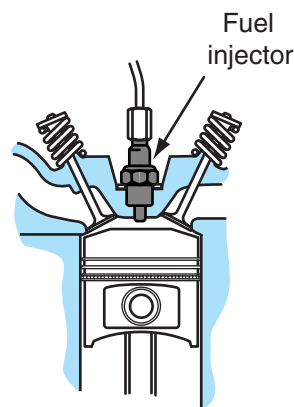

FIGURE 1.42 A diesel engine has a timed, high-pressure fuel injector to control the point of ignition.
A diesel is a compression ignition (CI) engine. It does not use a spark to ignite the fuel. Diesel engines use fuel injectors (**Figure 1.42**). When air is compressed